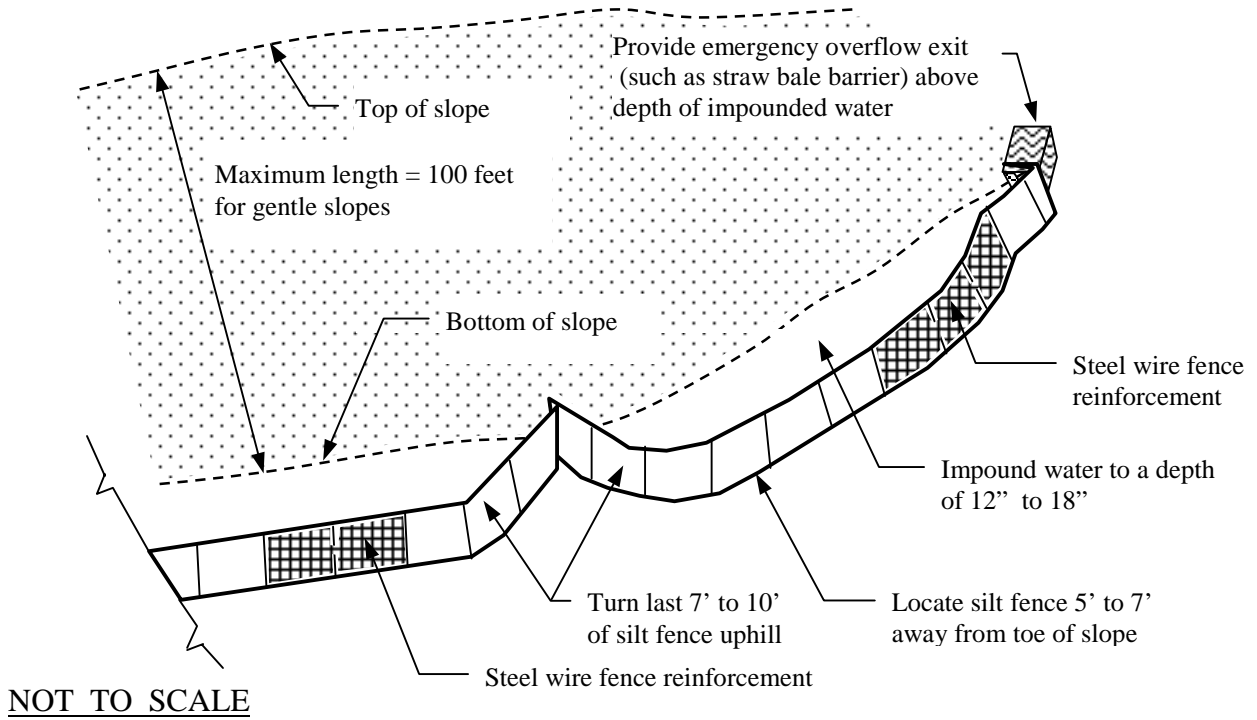

Figure ES-14-3
- Locate silt fence at least 5 to 7 feet beyond the base of steep slopes. In locations at the bottom of a slope, turn the ends of the silt fence upslope so that a certain depth of stormwater may be retained in front of the silt fence. The impounded depth should be at least 12 inches but less than the silt fence height. Install straw bale barriers at the end of the silt fence row as an “emergency overflow” to allow detained water to be filtered quickly. See Figure ES-14-3 for a typical layout using straw bales at the end of silt fence.
3. Place silt fence at least 5 to 7 feet away from steep or long slopes to impound stormwater runoff. See Figure ES-14-3.